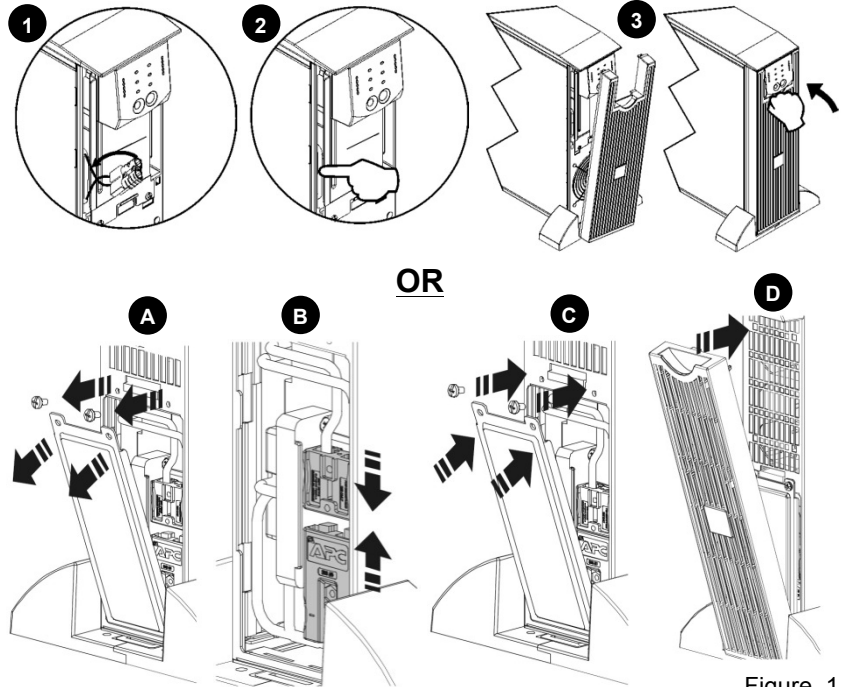

Figure 1
Connect the UPS's Internal Batteries (Figure 1):
Procedure for Figure 1: (1, 2, 3)
Procedure for Figure 1: (A)